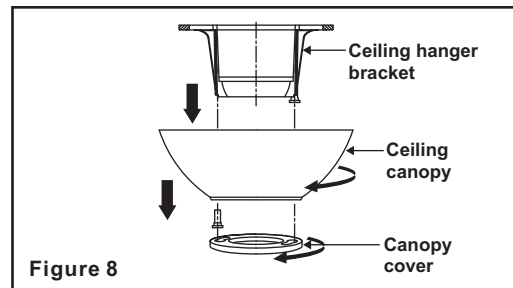

Figure 8
Step 1. Remove the decorative canopy bottom cover from the canopy by turning the cover counter clockwise.(Fig. 8)
Step 2. Remove the mounting bracket from the canopy by removing the 1 of 2 screws from the bottom of the mounting bracket and loosening the other one a half turn from the screw head. Next, turn the canopy counter clockwise to removing the mounting bracket from the canopy. (Fig. 8)